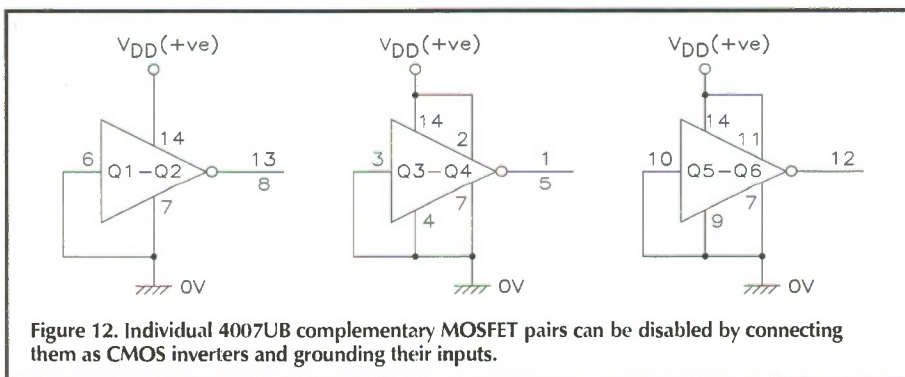

Figure 12. Individual 4007UB complementary MOSFET pairs can be disabled by connecting them as CMOS inverters and grounding their inputs.
shown in Figure 12; individual MOSFETs can be disabled by tying their source to their substrate (B), and leaving the drain open circuit.